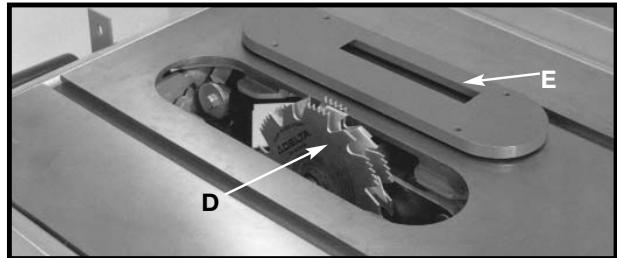

Fig. 56
2. Attach the dado head set (D) Fig. 56, to the saw arbor.
▲CAUTION THE ACCESSORY DADO HEAD SET TABLE INSERT (E) FIG. 56, MUST BE USED IN PLACE OF THE STANDARD TABLE INSERT.